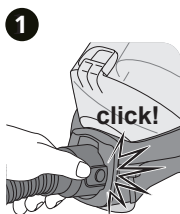

Figure 1
1. Connect hose and appliance as shown in figure 1.